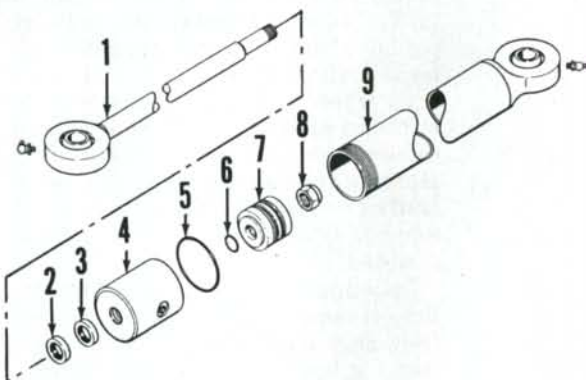

Fig. 37—Exploded view of typical steering cylinder used on models equipped with Carraro front drive axle. Two cylinders are used.
Clear cylinder of oil as necessary by moving piston rod through its complete stroke. Unscrew end cap (4—Fig. 37) and pull piston rod (1) and piston (7) out of cylinder tube (9). Remove retaining nut (8), piston assembly (7) and "O" ring (6). Slide end cap (4) off piston rod (1), then remove "O" ring (5) and seals (2 and 3).